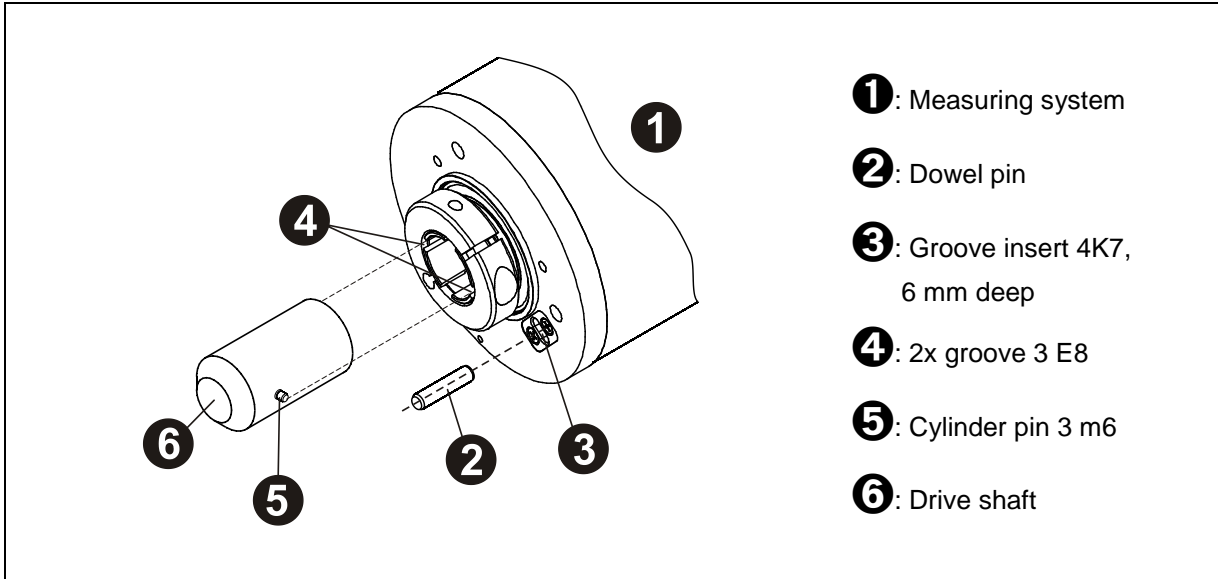

Figure 11: Form-locking
- General recommendation: Radial slipping of the measuring system on the drive shaft should be prevented by a form-locking connection, using a cylinder pin / groove combination for example; in this case the measuring system can be fixed in position on the drive end using a dowel pin, see Figure 11. The dowel pin must extend at least 4 mm into the groove insert.